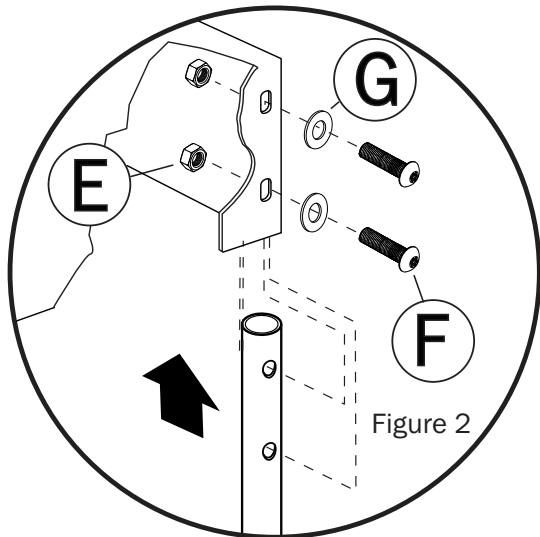

Figure 2
5. Insert (2) Bolts(D) and (2) Washers(E) into underside of Deck Support(B), through bracket on underside of ADA Deck(A) and secure with (2) Flat Washers(E) and (2) Lock Nuts(F). See Figure 2.
5. Insert (2) Bolts(E) and (2) Flat Washers (F) into ADA Handhold(A), into holes in ADA Deck and secure with (2) Flat Washers(F) and (2) Lock Nuts(D). See *Figure 2*.
3. Align slots on side of ADA Step(A) with holes in Extension Post(B) and insert (2)Bolts(F) and (2)Flat Washers(G) through holes in ADA Step(A), through Footer Post(B) and secure with Lock Nut(E). See Figure 2.
2. Insert Extension Tube(C) into Mounting Bracket(B). Insert Bolt(H) through larger hole in Mounting Bracket(B), through Extension Tube(C) and secure with Lock Nut (I). See Figure 2.
2. From back side of Slide Hood, place flat side of Panel Clamp(A) against Slide Hood. Insert Bolt(E) into slot of Panel Clamp(A), through hole in Slide Hood and secure with Flat Washer(C) and Lock Nut(D). Repeat for other side. See Figure 2.